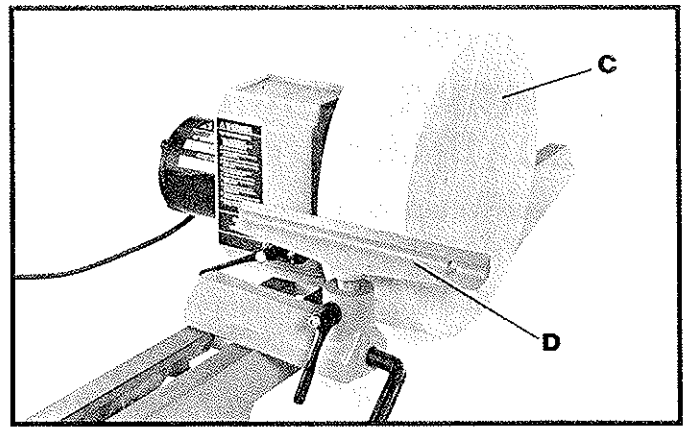

Fig. 83
2. The workpiece (C) Fig. 83, is then mounted to a faceplate and the faceplate is threaded onto the spindle, as shown.
3. Note that the standard equipment tool rest (D) Fig. 83, can be used to turn the outside diameter of the workpiece.